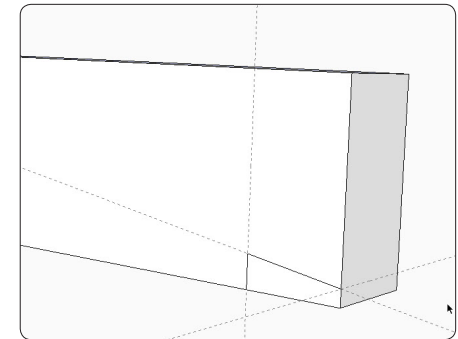

Figure 10. Draw the half dovetail and remove the waste.
Step 6 Copy the stretcher and move it away from the side components. Use the Tape Measure and Protractor Tools to place guide lines to lay out the half-dovetail on one end, as shown in Figure 10. Move the Tape Measure icon along the edge of the stretcher component to be sure the guide lines follow the slant of the component rather than an axis. Use the Line Tool to draw over